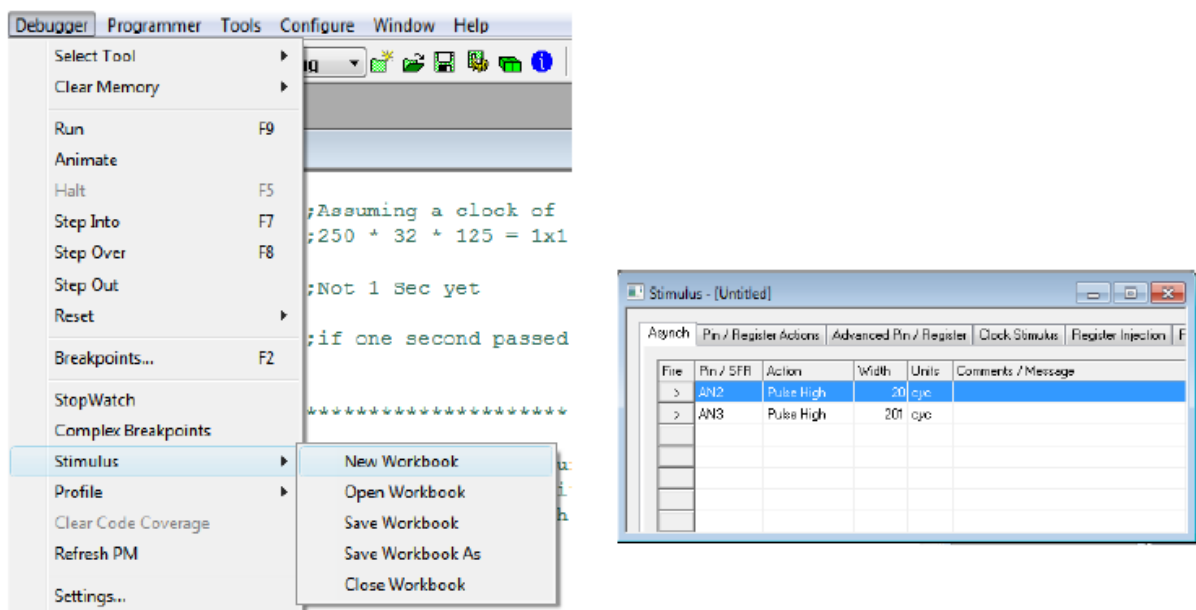

Figure 8. Stimulus window.
In order to simulate external inputs to the PIC pins, we are to use what is called a **Stimulus**. The Stimulus option is available in the Debugger menu as shown in Figure 8. When you select New Workbook, a new window will appear where you can add the pins to stimulate and specify type action to happen on this pion when stimulated.
1. Select Debugger → Stimulus → New Workbook as shown in Figure 8. A stimulus window opens
2. Click on a cell under **Pin/SFR** and select the pin that you want to stimulate. Add AN2 and AN3 which correspond to RA2 and RA3, respectively. For both pins, specify the action to be Pulse High under the **Action** column, under the **Width** column specify the width of the pulse to be 20, and under the **Unit** write 20 (Check Figure 8). This implies that this pin will receive a positive pulse with duration of 20 processor cycles when activated.